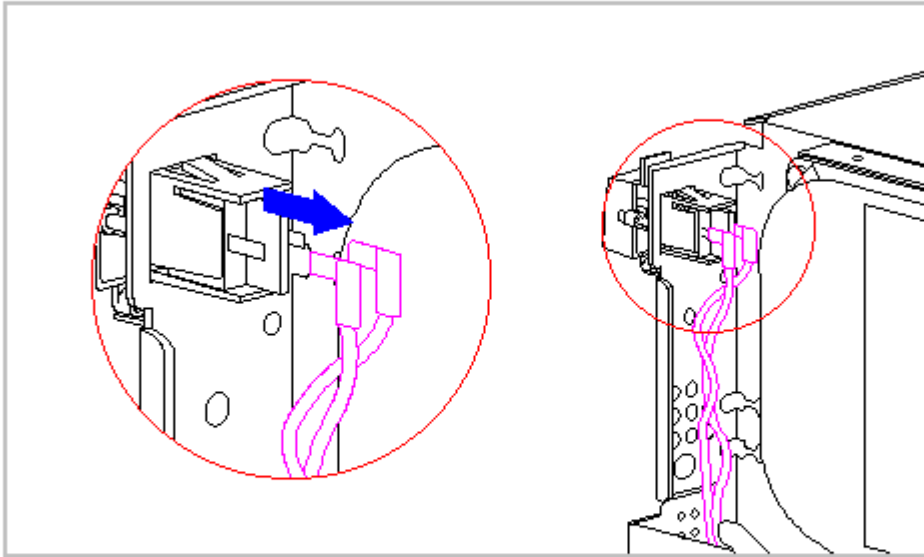

Figure 5-11. Disconnecting the Power Switch
4. Disconnect the power switch (Figure 5-11).